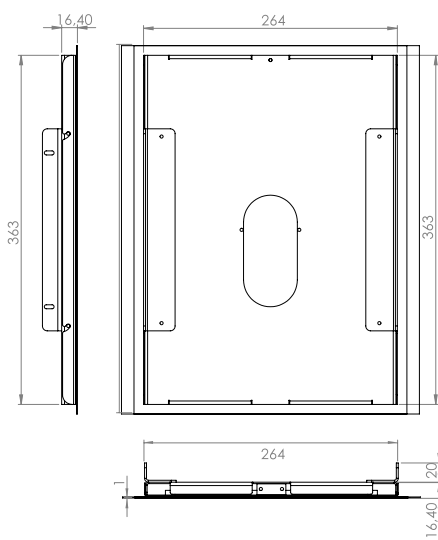

Fig. 18
- Abb. 18: Dimensions recess for TWE for Apple iPad Pro 12.9 (B x H x T): 264 x 363 x 15,4 mm